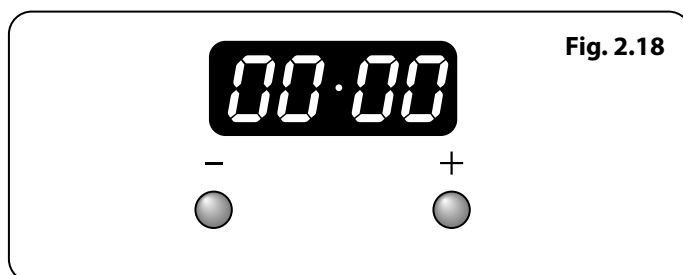

Fig. 2.18
1. The LCD clock is shown in (**Fig. 2.18**).